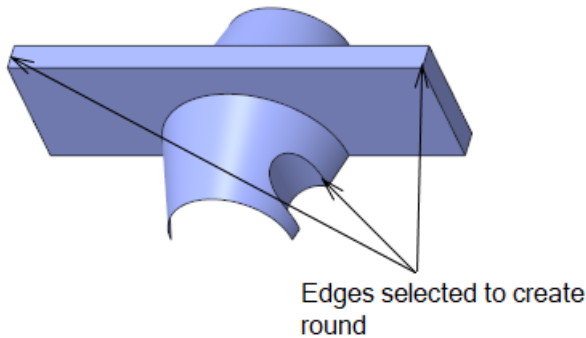

Figure 15-130 Edges selected to create rounds
1. Choose the **Round** tool from the **Engineering** group. Select the edge of the cylindrical slot, refer to Figure 15-130; a preview of the round is highlighted on the selected edge.
Among these edges, the two edges are those that are formed by merging the two blend surfaces with the base surface and the other two edges are the top corners of the base surface, refer to Figure 15-130.